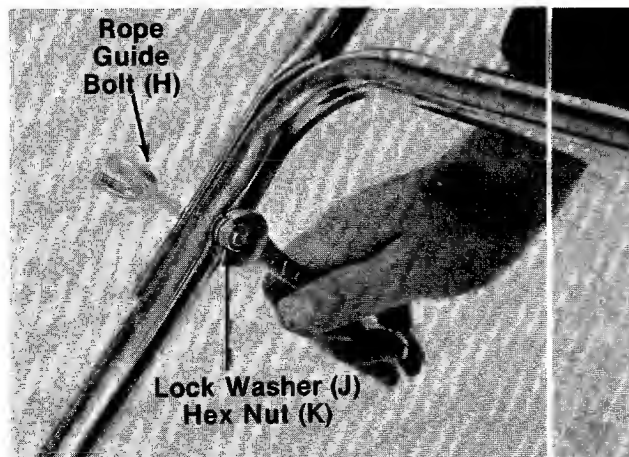

FIGURE 3.
4. Place the upper handle in position over the lower handle. The control housing must be on the right hand side of the handle. Secure the right hand side of upper handle using the rope guide bolt (H), lock washer (J) and hex nut (K) as shown in figure 3.